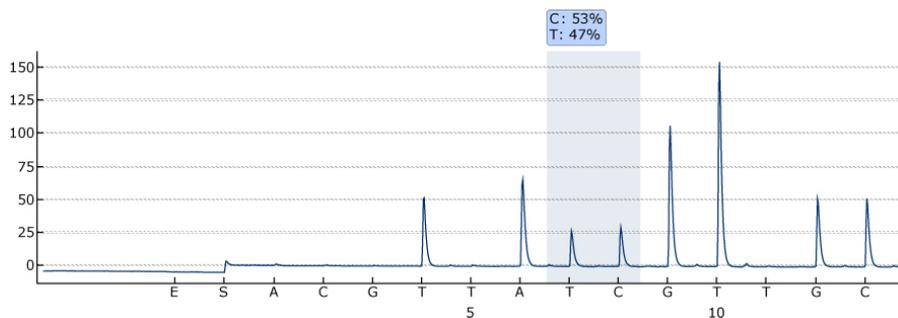

Figure 11. Pyrogram of Run 3.
- 49. Open the run in the PyroMark Q24 MDx Software and analyze all wells. The peak pattern should look like the one in Figure 11.**